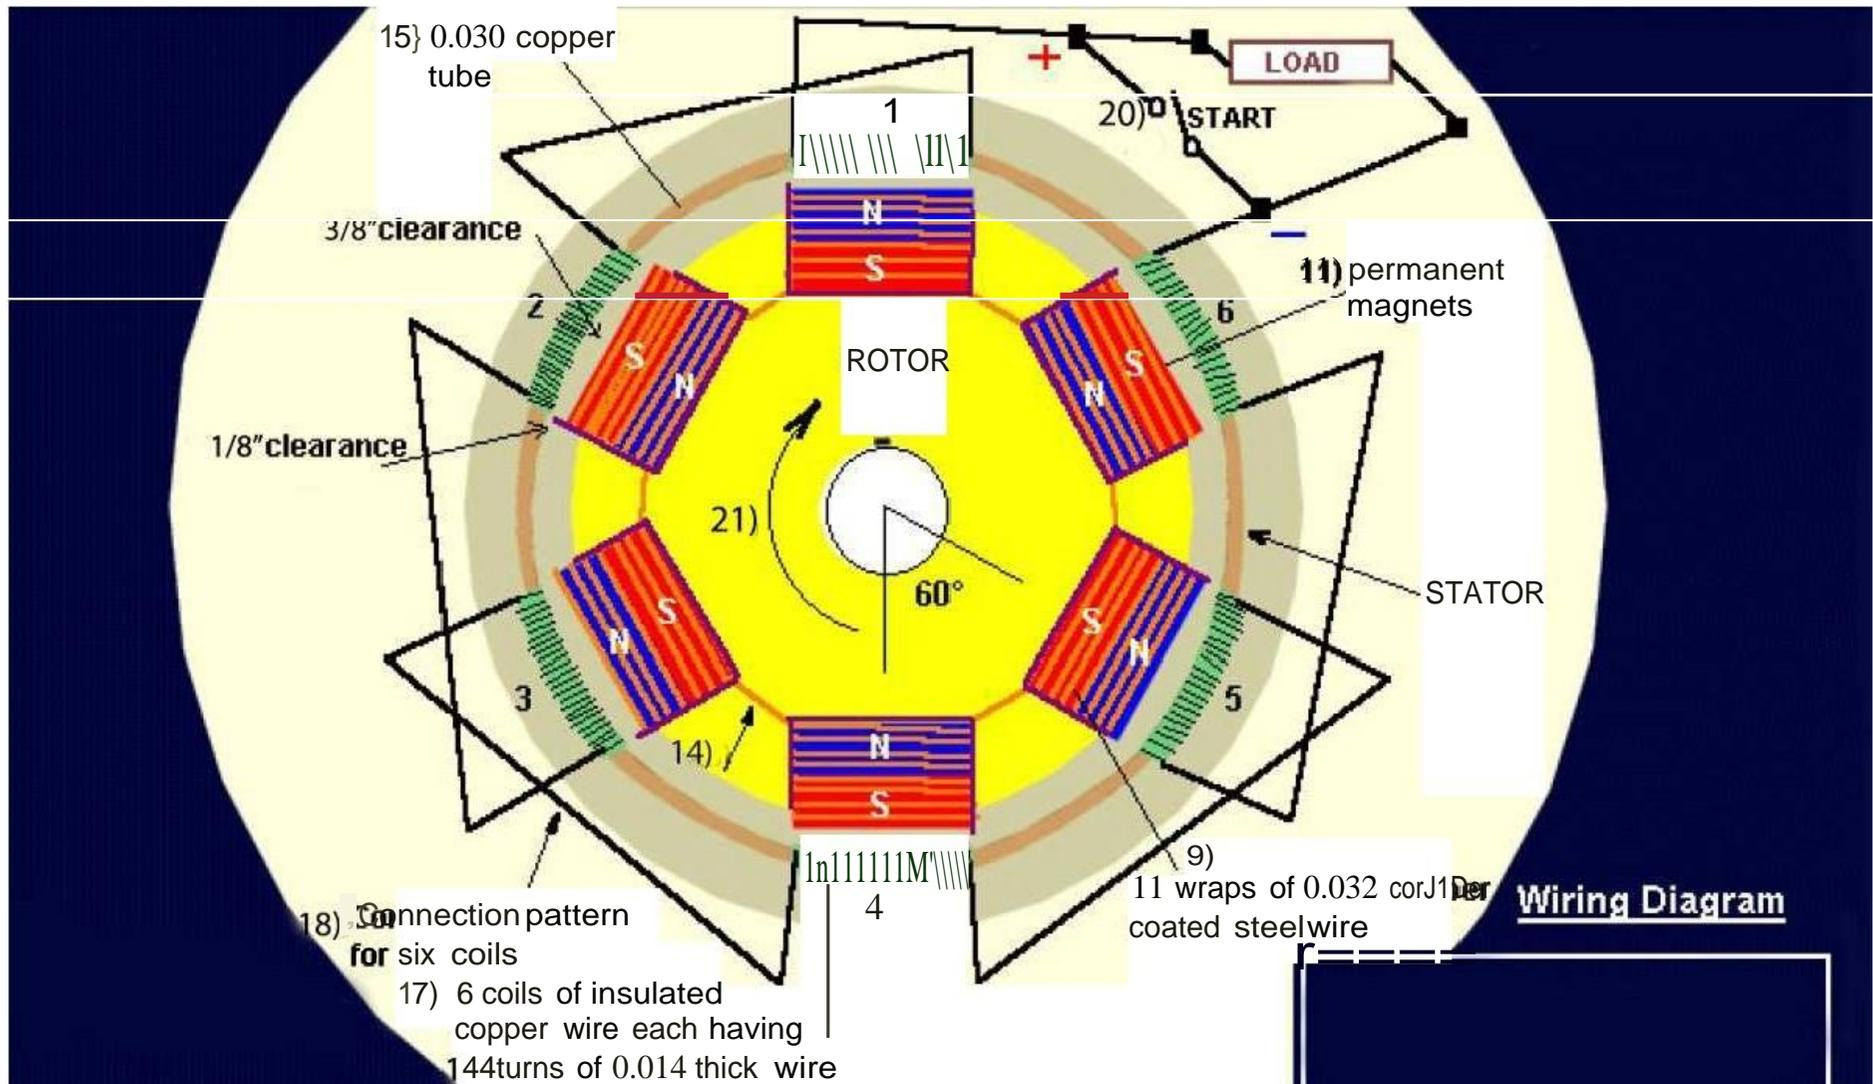

Figure 14.
- 13) The 12 wires that are wrapping are segmented into 2 parts of upper six and lower six. The upper 6 magnets are connected in series, as well as the bottom ones. These two parts are not connected in any manner. The flow of magnetic energy is from the upper 6 part to the lower part is got by "flow direction" which you can see in the Figure 14.
19) Wires to load as shown in Figure 14.
Connect each bulb in series and follow the wire connection from Figure 14 in order to have the right setup for the “Load” connected to the generator.
- 20) Wires to start switch as shown in Figure 14. The generator will not run by itself if the switch is not opened. Therefore, you must open the switch to make sure it starts working.
- 21) Rotational direction which is clock—wise when viewing from top down as shown in Figure 14.